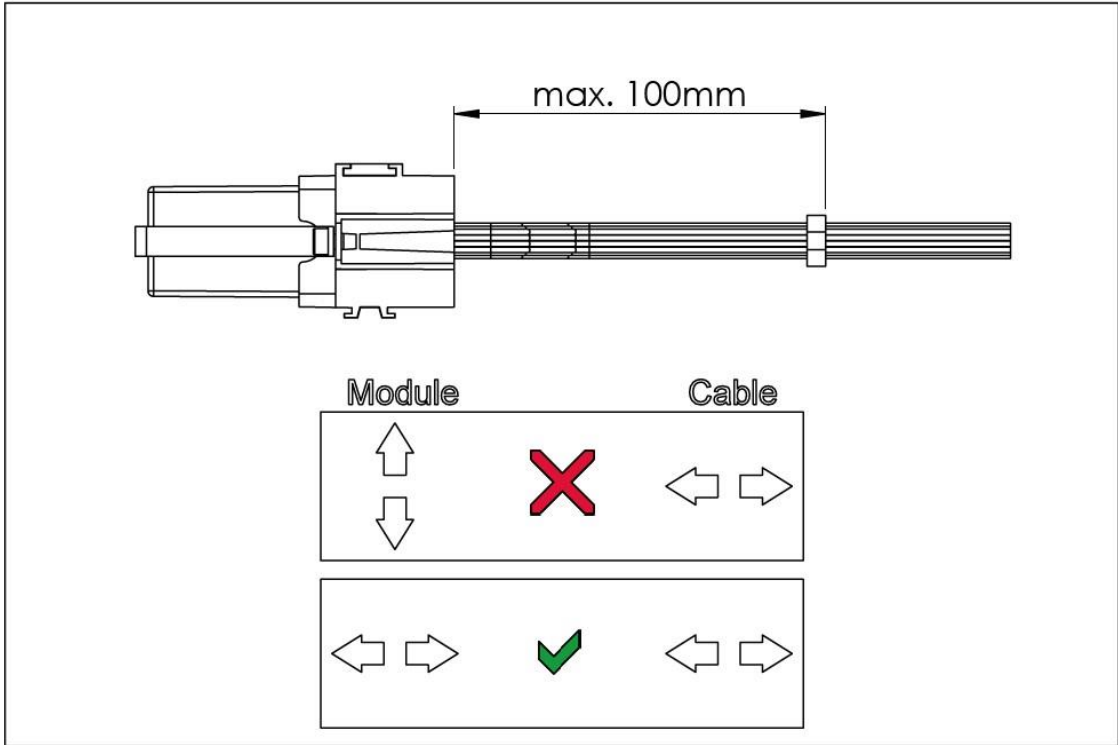

Figure 1: Strain relief of the cable harness (example). 100 mm (max.) are mandatory, controller may vary.
- The cable routing must be selected in such a way that the cable harness only moves identically to the direction of movement of the controller/plug. (Attachment controller/cable/strain relief on the same underground). A strain relief is necessary (see Figure 1).